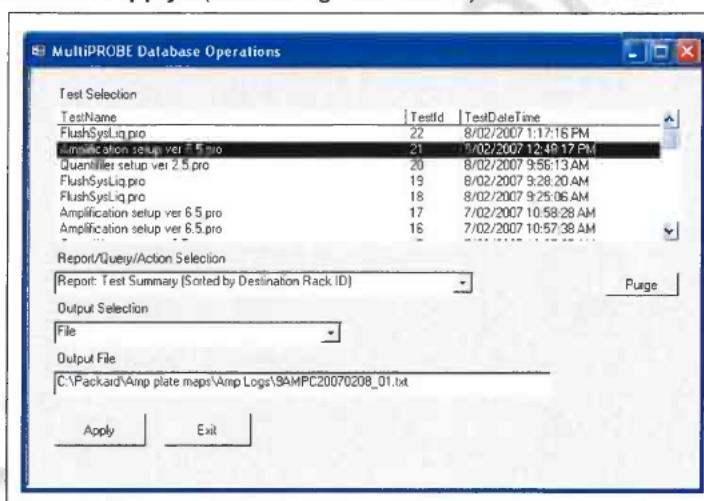

Figure 9. The MultiPROBE log database for collecting MP II run information
50. In the Output Selection dropdown menu, select "File". Save the output file as *.csv format to **C:\PACKARD\EXT PLATE MAPS\EXT LOGS** with the same name as the AUSLAB batch ID and click **"Apply"**. (refer to Figure 9. below)